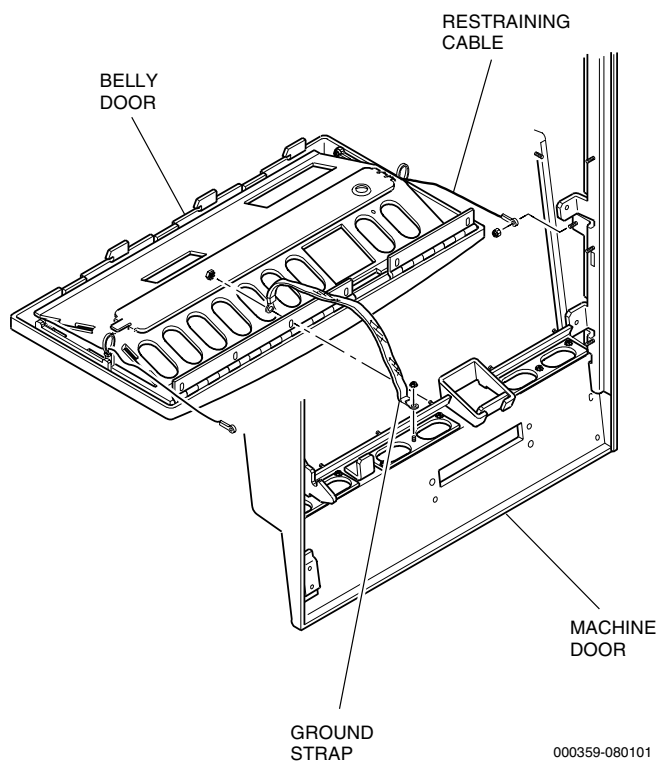

Figure 3-3. Belly Door Removal and Installation
See Figure 3-3 and use the information that follows to remove and install the belly door.
4. Secure the ground strap to the mounting stud on the machine door with a nut. See Figure 3-3 for the location of the mounting stud.